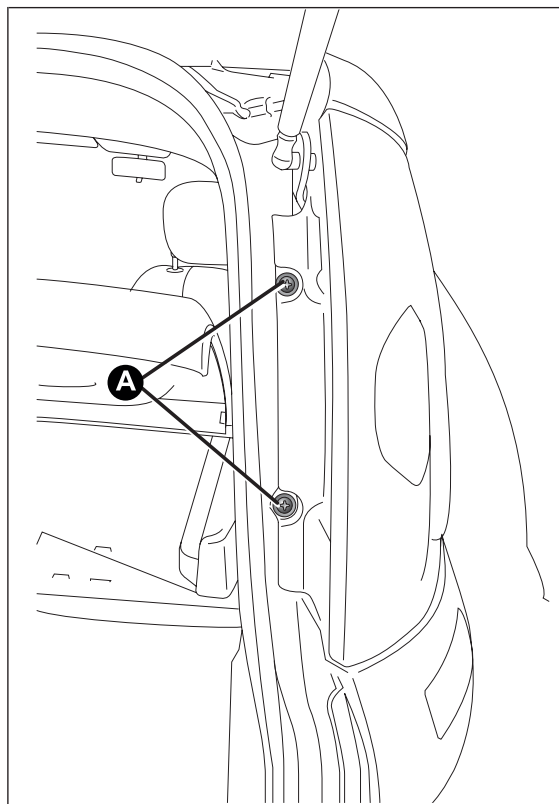

fig. 121
- ☐ slacken the two screws fig. 121 from their seats, pull gently outwards until releasing the whole headlight from the two clips (press-fitted D fig. 121) and release the connector;